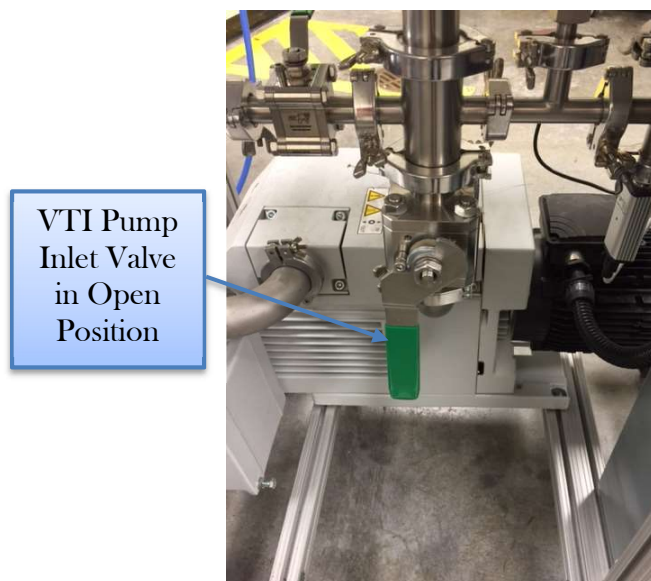

Figure 7
1.9 Open VTI pump inlet valve (Figure 7).
- 1.26 Open VTI pump inlet valve (Figure 7).